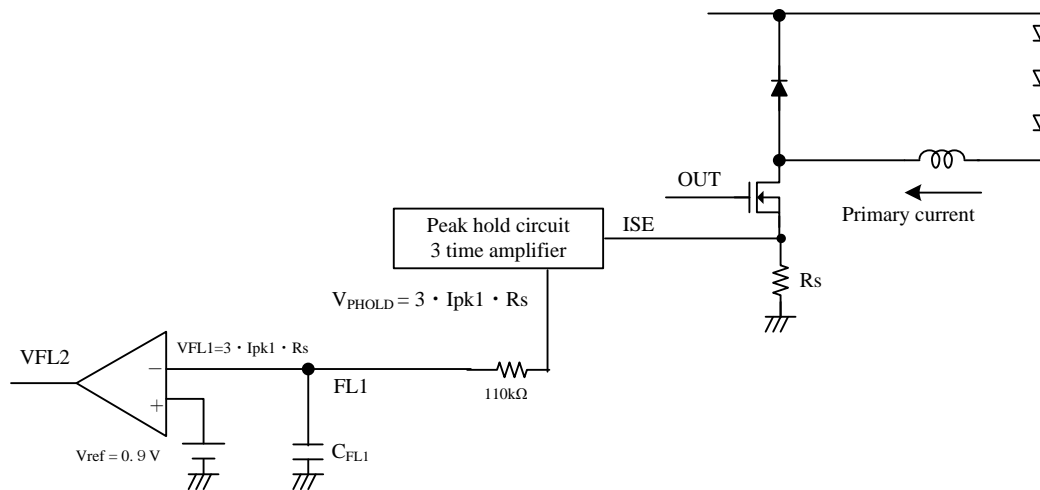

Figure 6.6 Step-down block diagram relation constant current operation
IC operation, how to control LED current (output current) to be a constant value, is explained as below. Figure 6.6 shows block diagram relating constant current operation. As V_{ISE} is proportional to primary current and sensing resistance R_s , ISE terminal can monitor primary current. V_{PHOLD} is the output of peak hold circuit. It outputs the peak value of V_{ISE} every switching cycle, shown by equation (7).